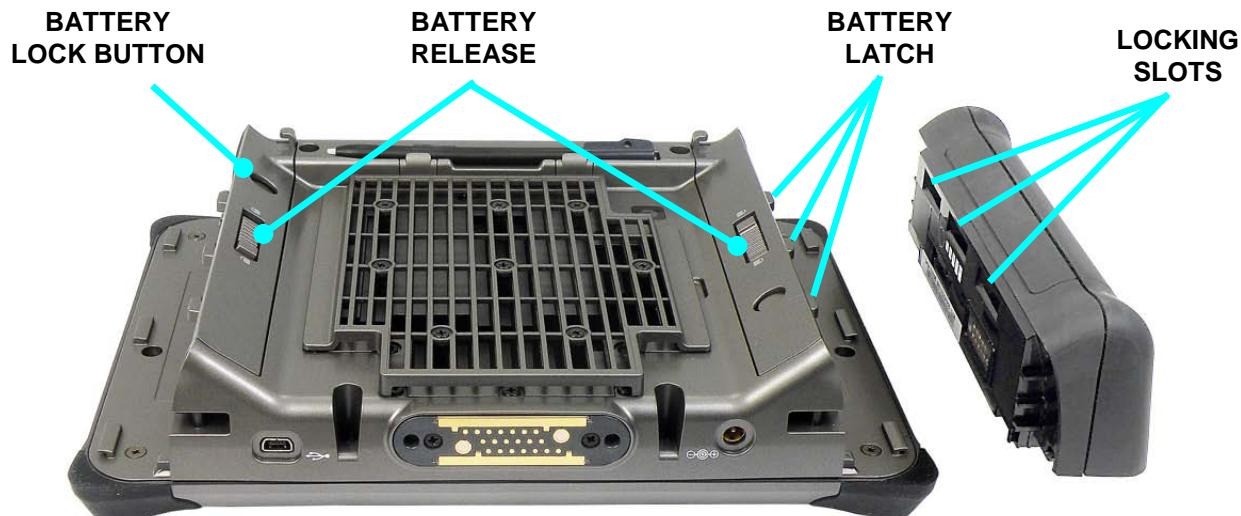

Figure 88. Replacing an X7 Battery
2.	To install a battery, place the battery on the battery bay with the locking slots facing toward the battery latch, as shown in Figure 88.